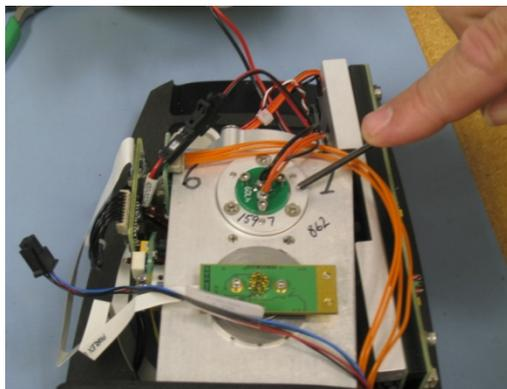

Figure 22. Source assembly in interferometer frame
- 6 Identify the source assembly. The source is located on the top of the interferometer frame. It is secured by three Philips head screws (see Figure 22). Using the appropriate Philips head screwdriver, remove all three screws.